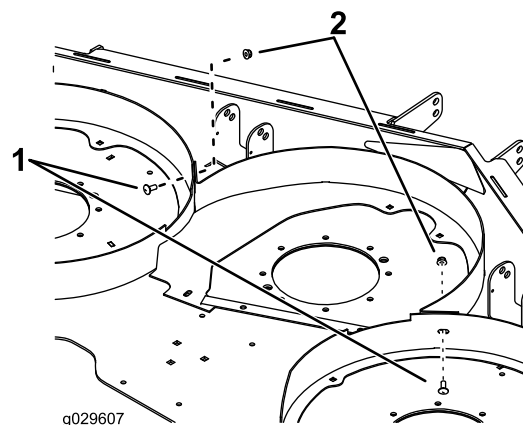

Figure 3
2. Loosely mount the left and right chambers to the center chamber with 2 carriage bolts (5/16 x 3/4 inch) and 2 nuts (5/16 inch) as shown in Figure 3.
4. Mount the 2 support straps and the deflector to the 2 rear angles with 8 carriage bolts (5/16 x 7/8 inch) and 8 nuts (5/16 inch) as shown in Figure 3.